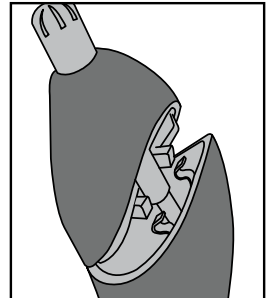

Fig. 6.
- The head should lean at an angle with the two front prongs of the head resting on the metal clips of the handle (Fig. 6).